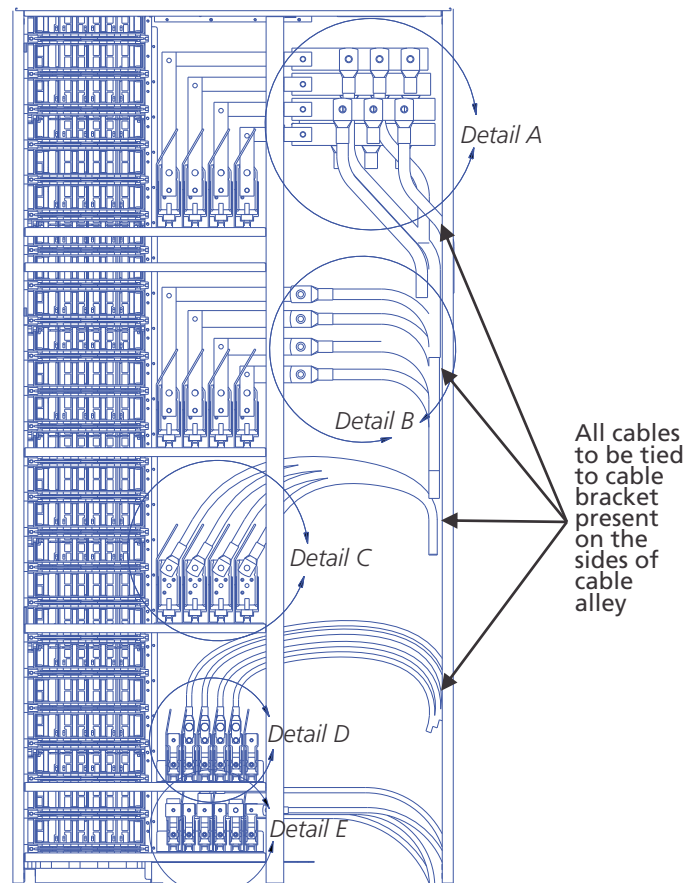

Figure 44 - Side Cable Entry (Front View) Cables tied to cable bracket present on the sides of cable alley
- Step 3 : Take the branched out cables to the respective feeder through the side walls of the cable alley as shown in figure 44.